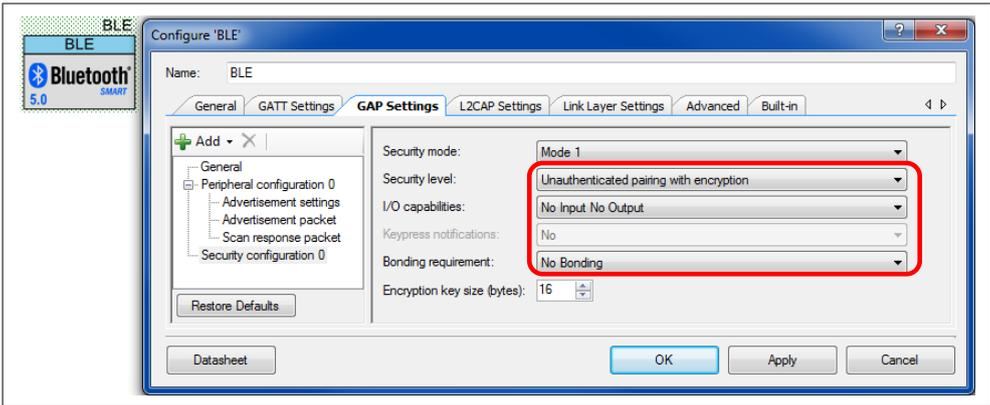

Figure 26 PSoC™ Creator BLE component, GAP Settings tab configuration
- Security configuration 0 (see Figure 26), Security level: **Unauthenticated pairing with encryption**.